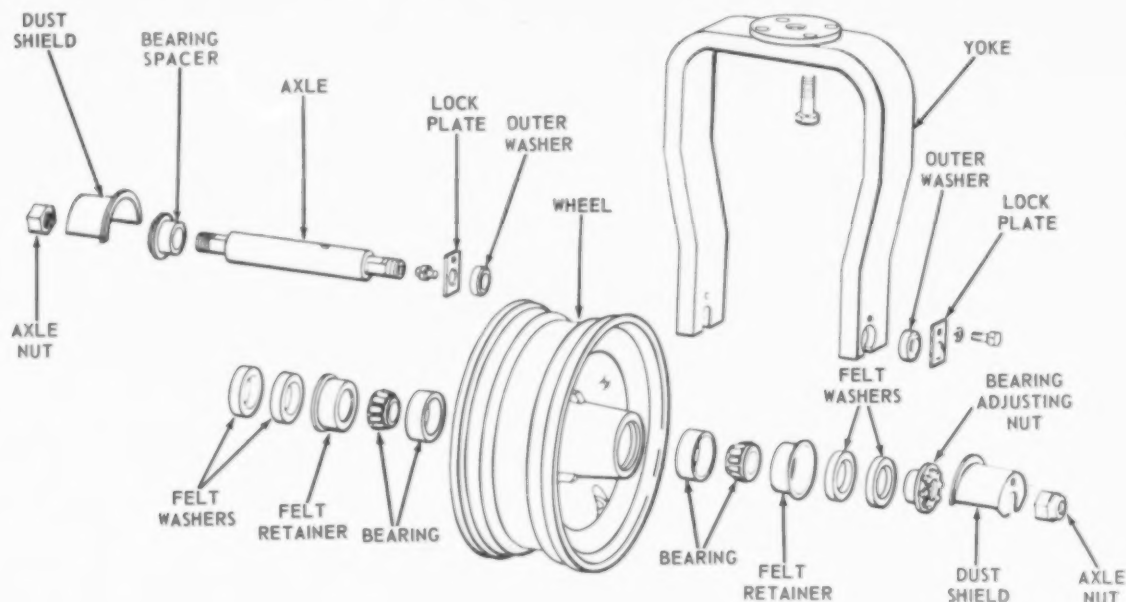

Fig. 17—Removing Adjusting Nut
4. Remove cotter pin with diagonal pliers. Straighten pin before removing it (Fig. 17).